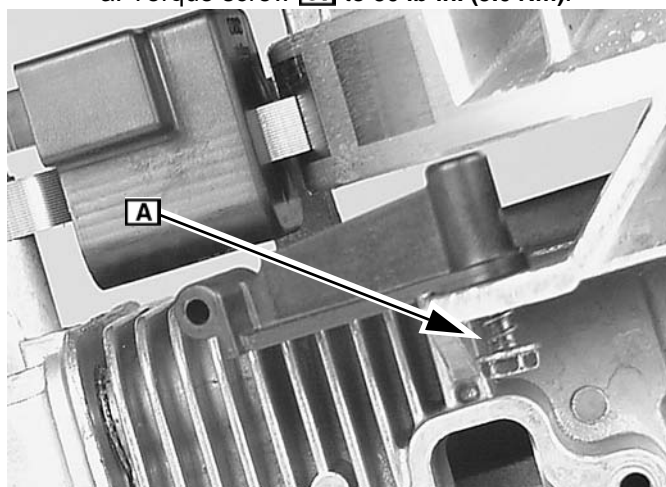

Fig. 77
1. Install air vane governor bracket to cylinder (Figure 77).